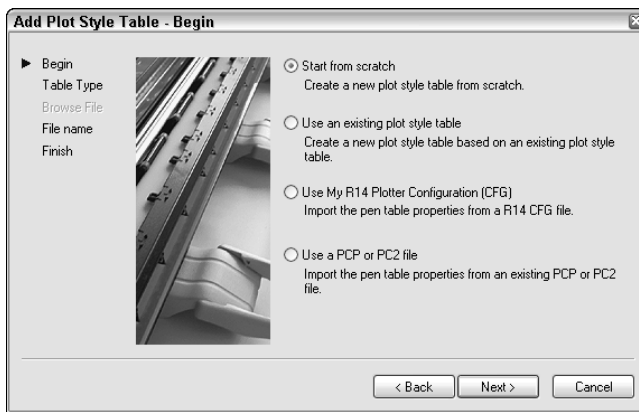

Figure 17-16: In the Begin screen of the Add Plot Style Table Wizard, choose the source you want to use for the new plot style table.
2. On the Begin screen, shown in Figure 17-16, choose the source you want to use for the plot style table. You can start from scratch or use an existing plot style table. Choose Use My R14 Plotter Configuration (CFG) to use the pen assignments from the `acadr14.cfg` file. If you have a PCP (Release 12/13) or PC2 (Release 14) configuration file, you can use it to import the settings from that file into the plot style table. Then click Next.